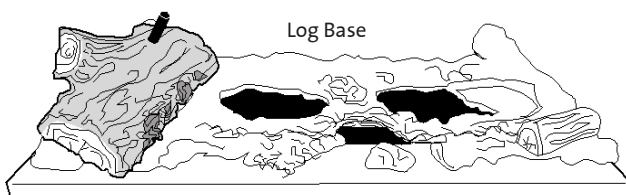

Figure 39. Position Log A in the pocket at left.
2. Seat Left Log A in the shallow pocket at the left side of the Base. Fig. 39.